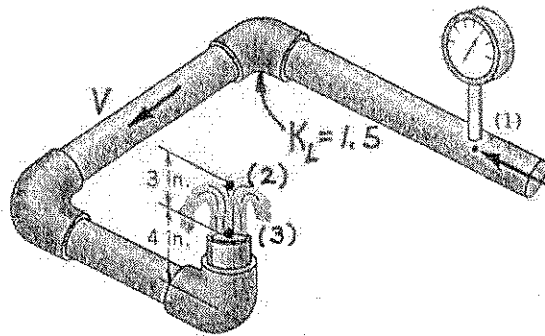

FIGURE P8.78
8.78 As shown in Video V8.15 and Fig. P8.78 water "bubbles up" 3 in. above the exit of the vertical pipe attached to three horizontal pipe segments. The total length of the 0.75-in.-diameter galvanized iron pipe between point (1) and the exit is 21 in. Determine the pressure needed at point (1) to produce this flow.